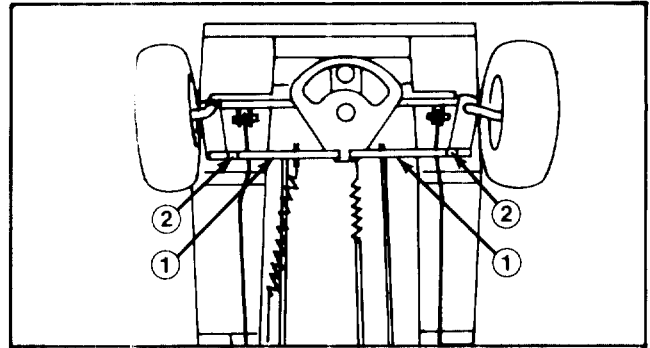

Figure 27
7. To align front wheels, loosen jamnut and turn tie rods until centerline distance across front of wheels is .06 inch (1.5 mm) to .25 inch (6.3 mm) less than centerline distance across rear of front wheels (Fig. 27).